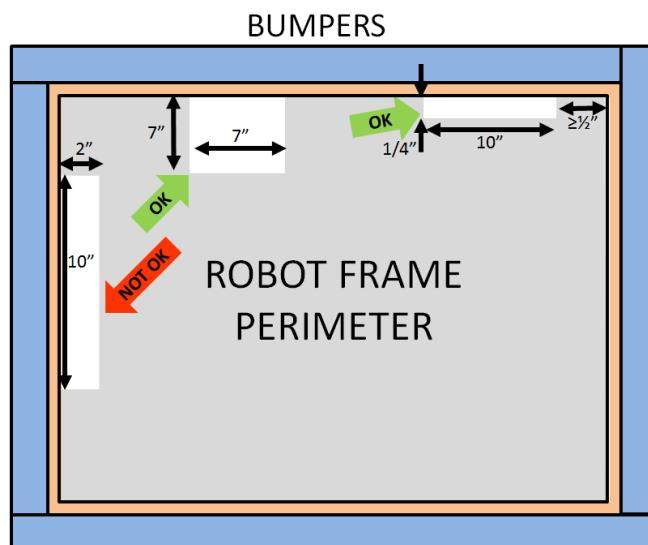

Figure 9-8 BUMPER support examples
**R26.** BUMPERS must be supported by the structure/frame of the ROBOT (see Figure 9-8). To be considered supported, a minimum of  $\frac{1}{2}$  in. (~13 mm) at each end of each BUMPER wood segment must be backed by the FRAME PERIMETER ( $\leq \frac{1}{4}$  in. gap, ~6mm). “Ends” exclude hard BUMPER parts which extend past the FRAME PERIMETER permitted by R24-B. Additionally, any gap between the backing material and the frame: